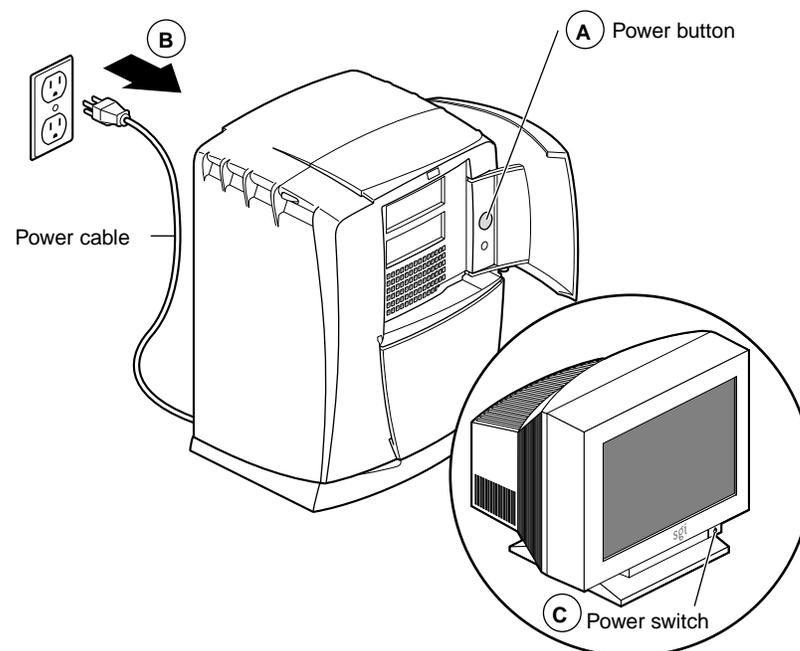

Figure 6-2 Powering Off the Octane2 Workstation
1. Open the cover and press the power button (see A in Figure 6-2) to power off your workstation.
2. Unplug the power cable from the electrical outlet (B) and from your workstation.
3. Press the monitor power switch (C) to power off your monitor.